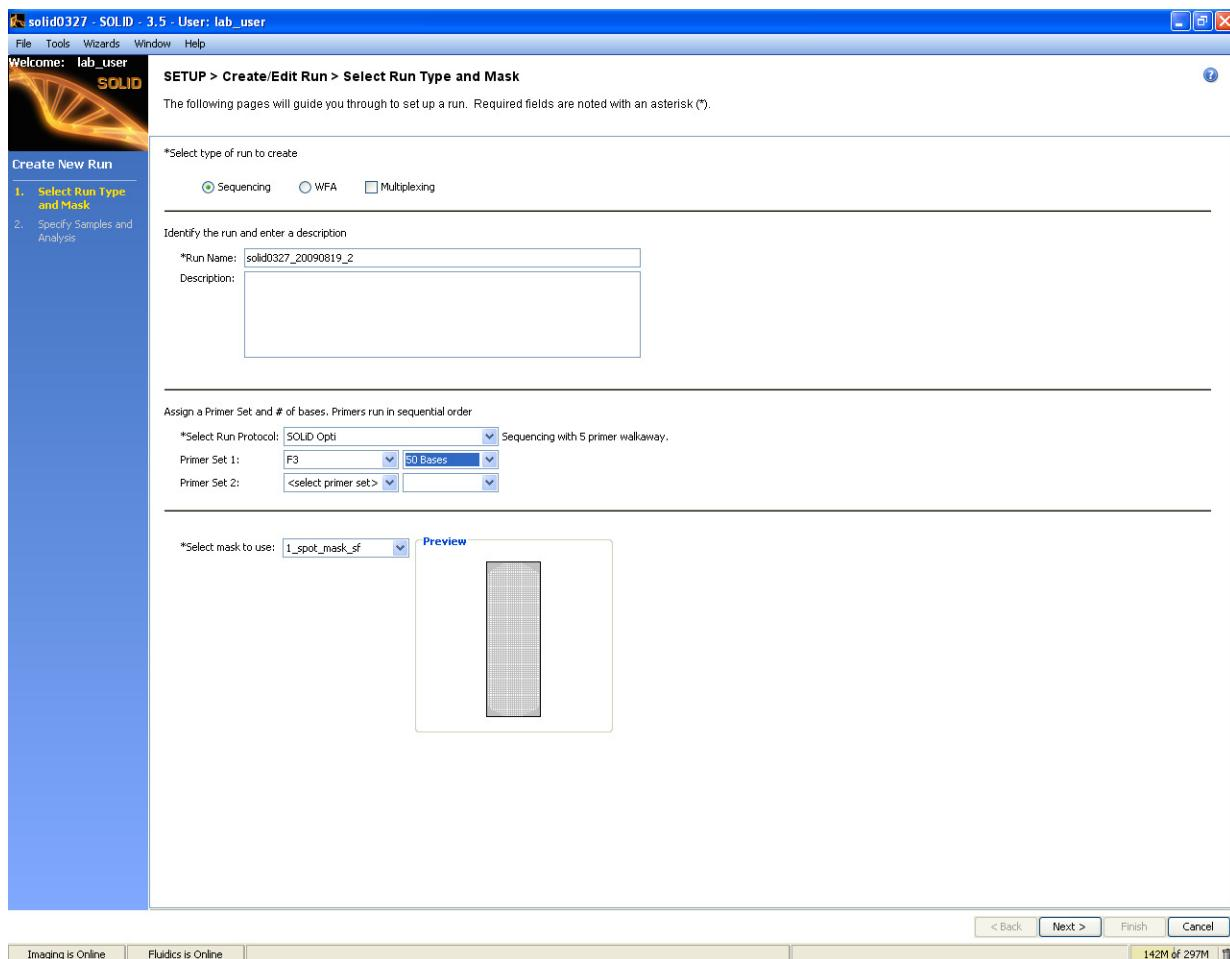

Figure 47 Complete the information in the Select Run Type and Mask pane.
2. Complete the information in the Select Run Type and Mask pane (see Figure 47 on page 54):